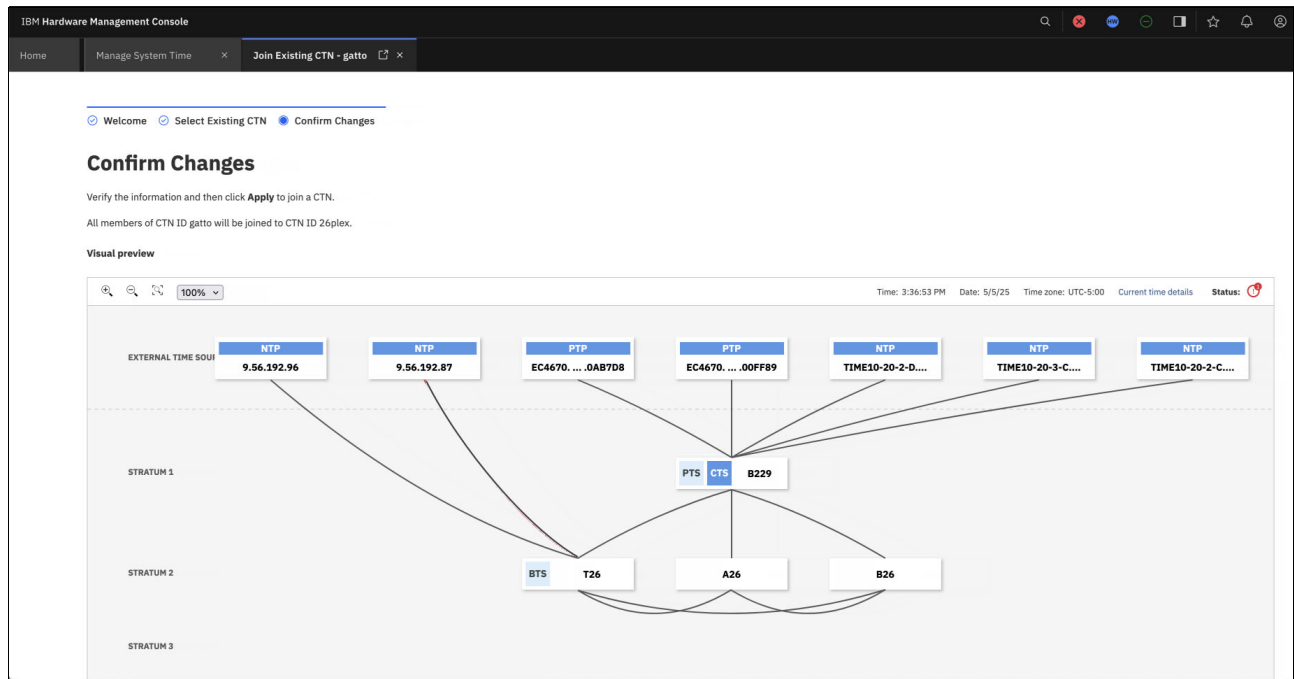

Figure 5-4 Confirm Changes menu
5. A visual preview of the target configuration is displayed in the Confirm Changes menu (Figure 5-4 on page 114).